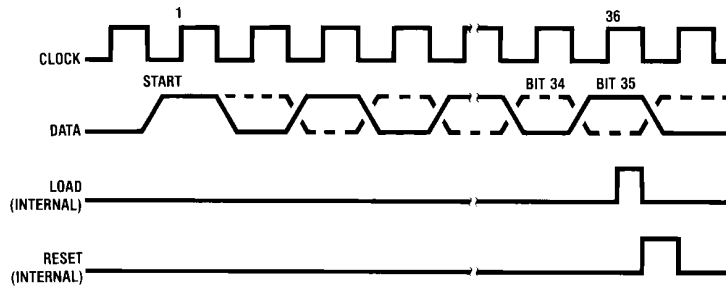

FIGURE 4. Input Data Format
*Figure 4* shows the input data format. A start bit of logical "1" precedes the 35 bits of data. At the 36th clock a LOAD signal is generated synchronously with the high state of the clock, which loads the 35 bits of the shift registers into the latches. At the low state of the clock a RESET signal is generated which clears all the shift registers for the next set of data. The shift registers are static master-slave configuration. There is no clear for the master portion of the first shift register, thus allowing continuous operation.